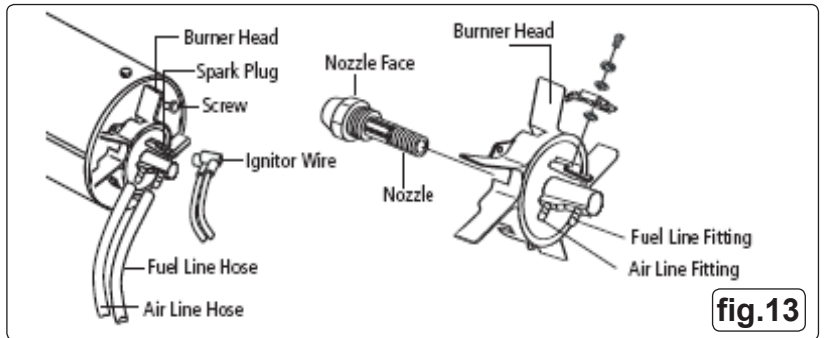

fig.13
- 6.6.2 Remove the burner head and remove the nozzle (fig.13).